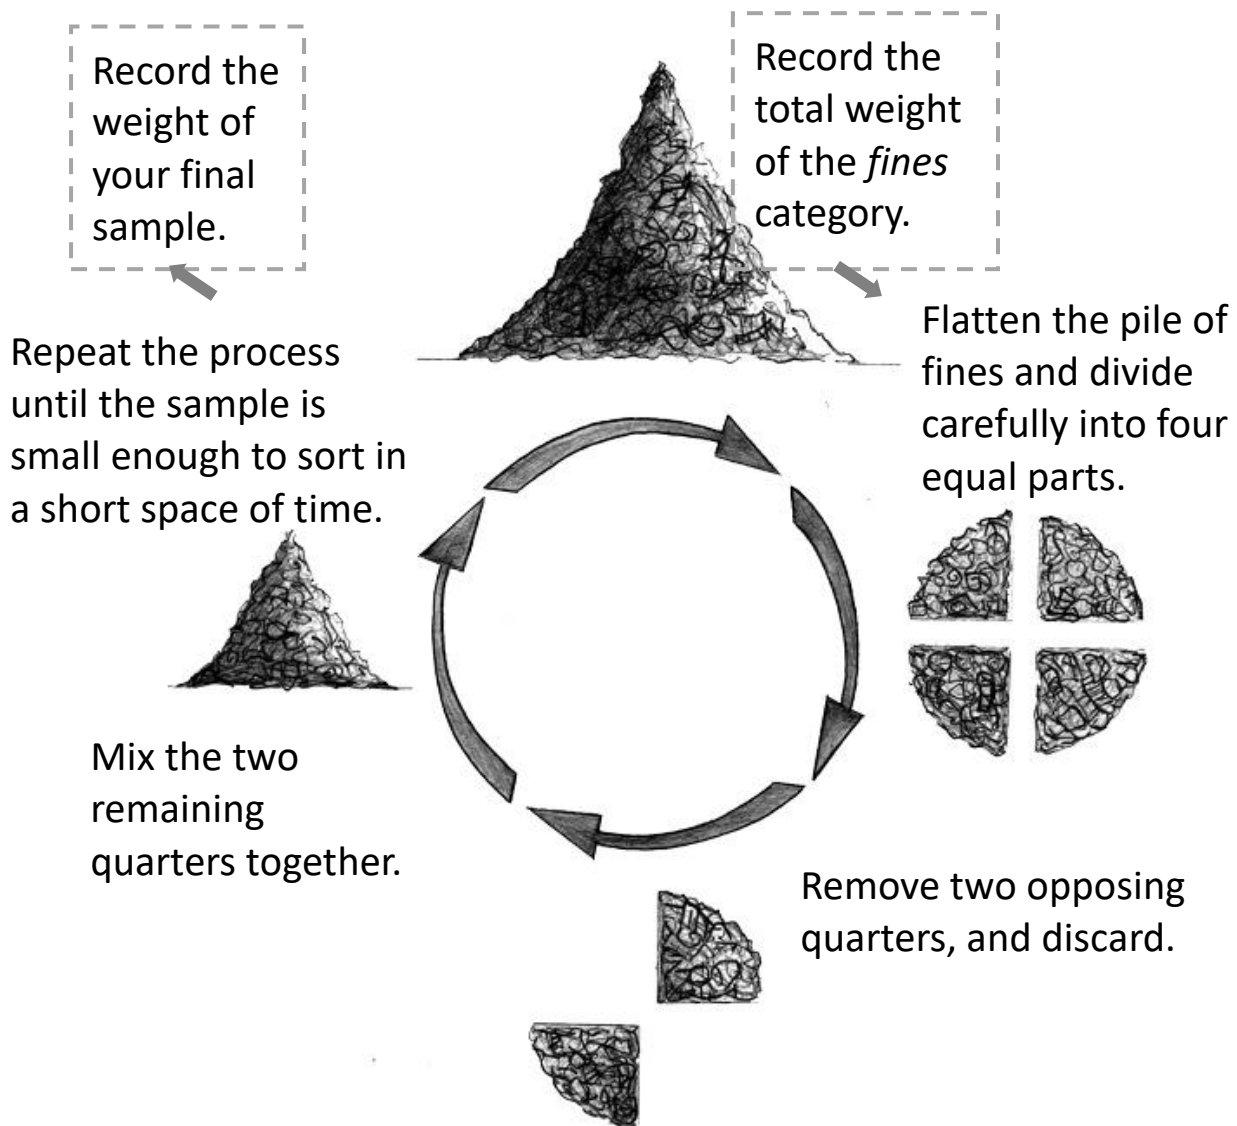

Figure 1-10: How to produce a small and representative sample of fines.
9. Sort all the waste until the largest item you have left is around 1 cm. The pieces that are smaller than 1 cm are called fines. These will take a long time to sort, so it helps to work with a smaller, representative amount, and then multiply the results back up to give an estimate of the total. To produce a small representative sample size, follow the steps below and in Figure 1-10.